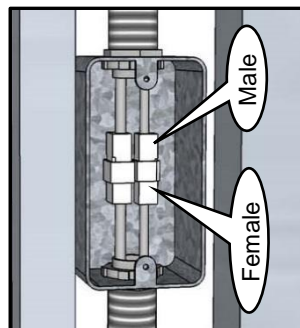

Figure 20
- 2** On 2-stop dumbwaiters, one set of wires has female connectors and the other set has male connectors. Match up each male and female connector and seat them firmly together. (see Figure 20)